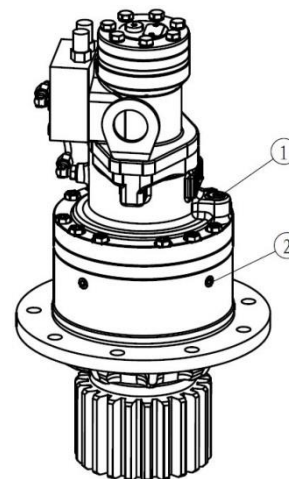

Figure 1-5 Swing Gearbox
- Remove the plug on the side and inspect the oil level, as shown in Figure 1-5.
- Result: Oil level shall be flush with viewing port (2).